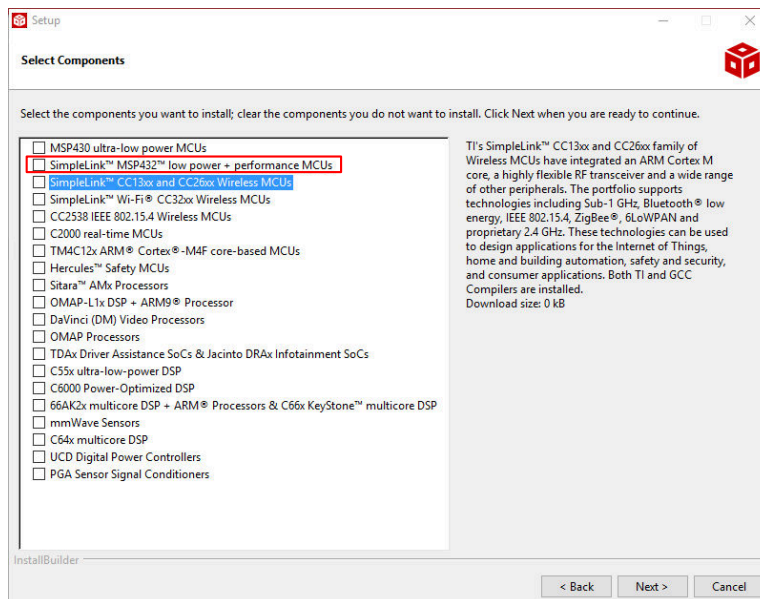

Figure 2-3. Select components when install CCS IDE
Step 1: Download the CCS IDE and follow the installation instructions. Choose "SimpleLink MSP432 low power + performance MCUs components" when choosing support device if custom installation is selected, as shown in Figure 2-3.